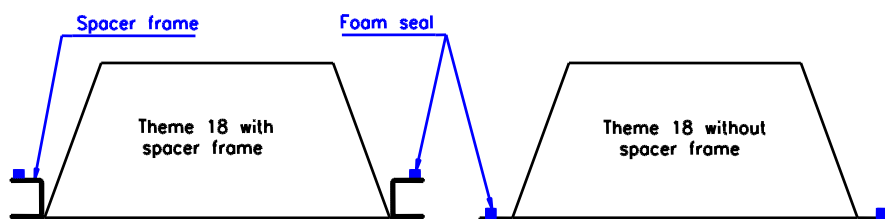

Fig.4 Attaching foam seal
3. Secure the self-adhesive foam sealing strip to the back of the spacer frame (Fig. 4)
3. Secure the self-adhesive foam sealing strip to the back of the convection box flange (Fig. 4)